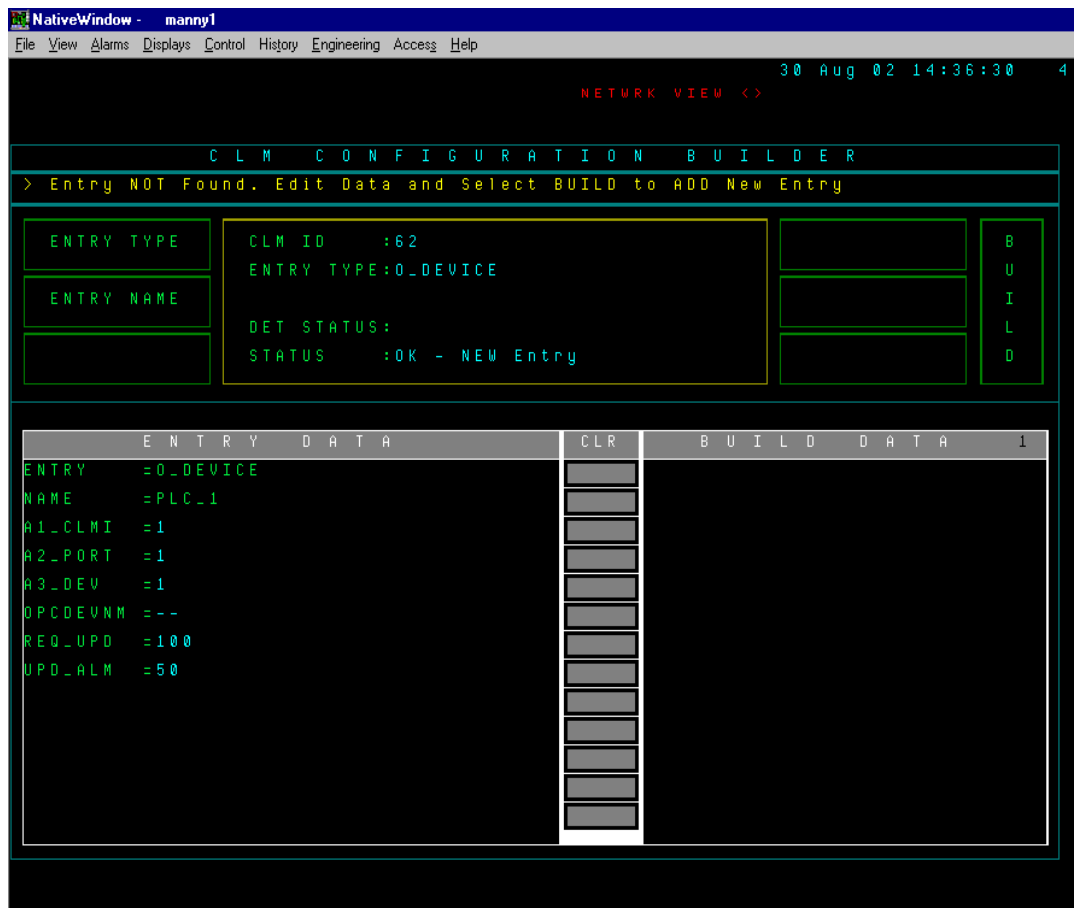

Figure 3.4-1 CLM Configuration Builder – Remote Device Example
3.4.6	Using the field definitions from the previous Table 3.4-1, enter the appropriate user values into the Builder entries. Caution: The CLMI and Instance assignments must match those that were configured previously through the CLM page of the TPS Configuration Utility. Note: If the Server object has no remote device definition, then build only a single device here, and use the default value of 1 for the physical address. The display should now look similar to the Figure 3.4-1.